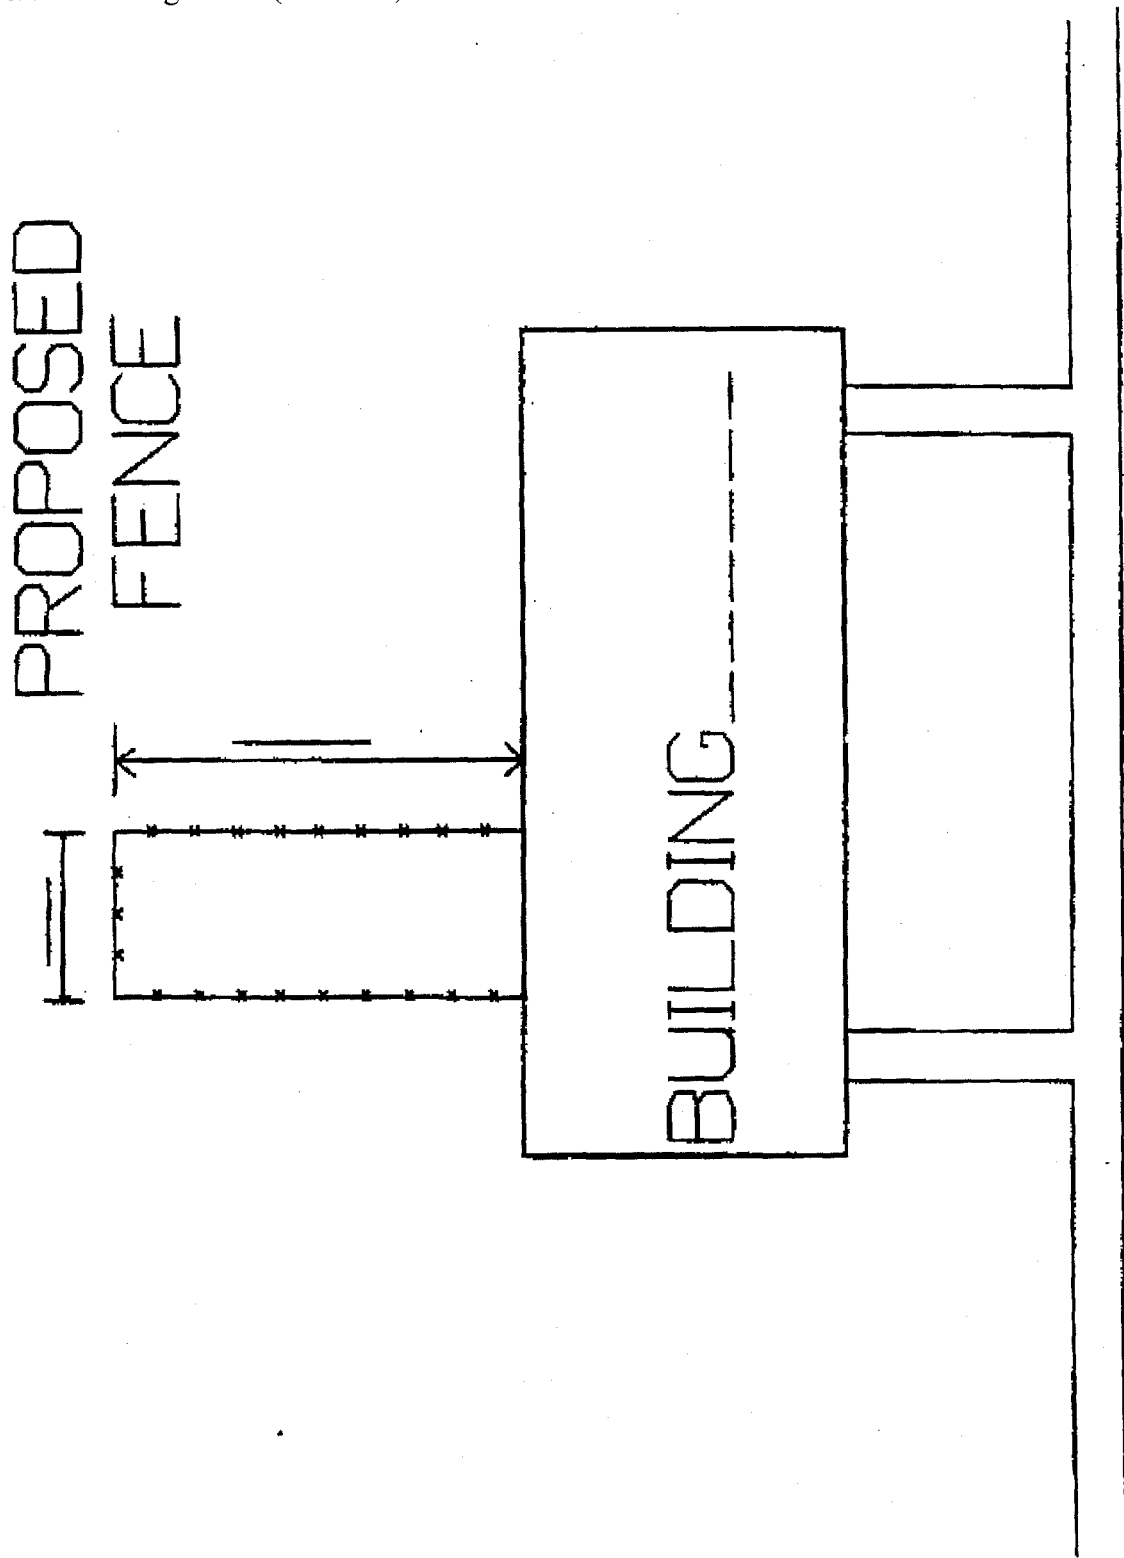

Figure A-5. Engineer Drawing F-11123 – Illustration of Sketch
(1) Complete a DA Form 4283 at the Work Reception Desk, located in the basement of Bldg. No. 1110-A.
(2) Provide a sketch with the DA Form 4283 showing the exact location and the exact dimensions of the requested fence. See attached sketch for an example (Figure A-5).
(3) Ensure fence is constructed at no cost to the government and maintained to present a neat appearance at all times. Damage caused to or by a resident-installed fence is the resident's responsibility, i.e., storm damage or storm damage repair crews.
(4) Ensure DBOS Plumbing Shop checks area for underground utilities before fence is installed. Resident will call 1-800-752-6007 "Before You Dig" (BUD) to verify the location of telephone and television cables and privatized utilities.
(5) Remove fence, when directed, if it does not conform to the above specifications.
(6) Maintain a copy of approved DA Form 4283.
(7) Remove all fencing before departing the installation and restore all grounds damaged by the presence of and the removal of the fence.